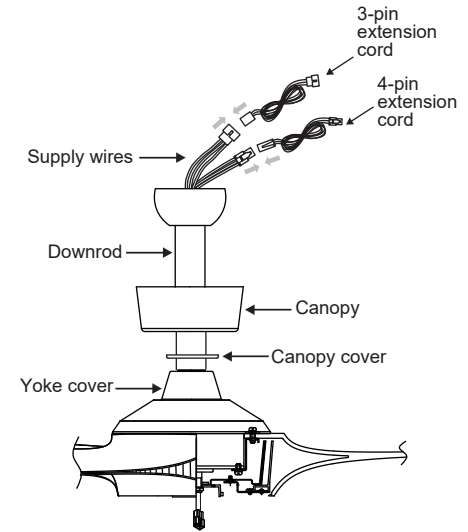

Fig. 11
Step 10. Carefully reinstall the hanger ball onto the downrod. Being sure that the cross pin is in the correct position, the set screw is tightened and wires are not twisted. (Fig. 11)
NOTE: If a longer downrod (not included) is needed, Be sure to snap together the 4-pin and 3-pin connectors, the two male plugs from the fan and female plugs from the 18 in. & 24 in. 4-pin & 3-pin extension cords (Fig. 11). PLEASE PUT THE EXTENSION CORD NEATLY INTO THE CANOPY.